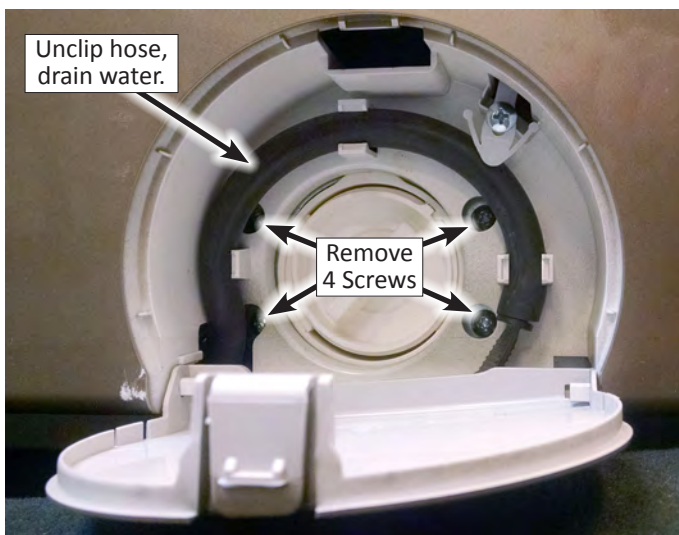

Figure 1
4. Remove the drain hose from its clips. Open drain hose to drain any water remaining in the drain and recirculation pumps (see Figure 1).
5. Remove the four (4) Phillips screws securing the drain pump to the front panel. See Figure 1.